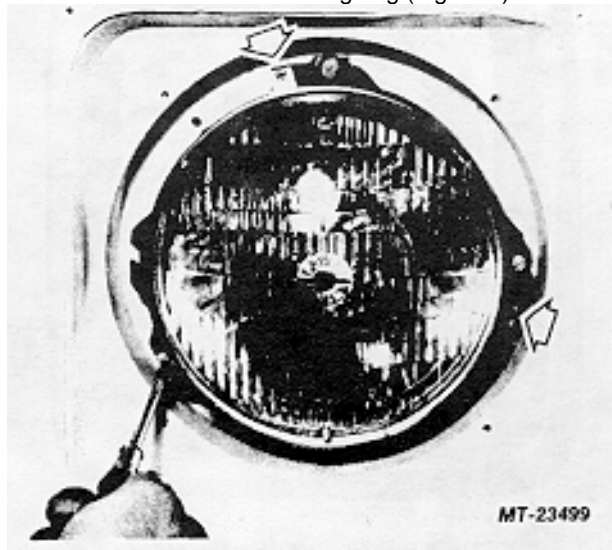

Fig. 4 Removing Sealed Beam Unit Retaining Ring
2. Remove three (3) retaining screws and remove sealed beam unit retaining ring (Figure 4).
- a. Remove three (3) retaining screws and remove sealed beam retaining ring (Figure 4).